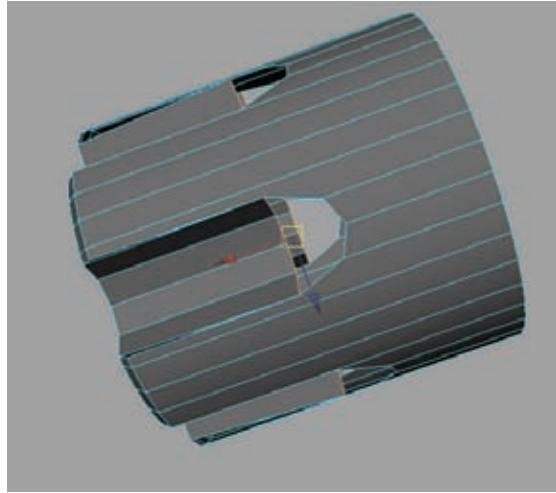

Figure 3.40
10. Extrude the edges again and begin point-snapping the ends of them to the notch curve to fill in the gap. Once the gaps are filled, you can use the Merge command to fuse the stacked vertices together (Figure 3.40).